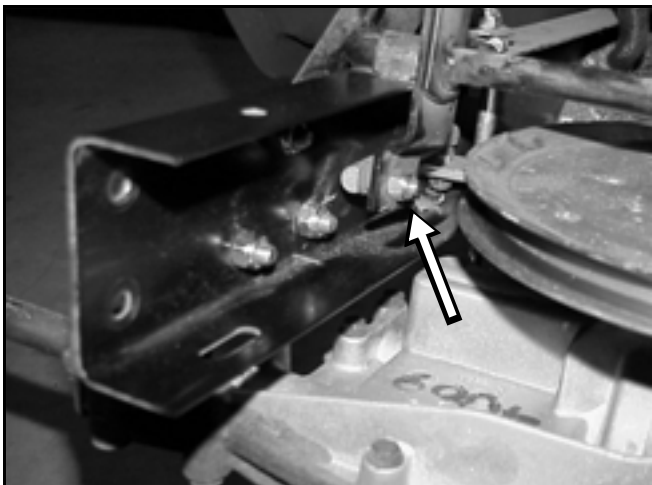

Figure 7
6. Remove the nut on the shift tie rod (Figure 7).